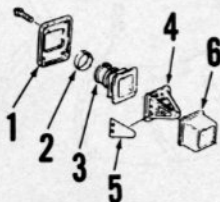

Fig. HL345—Exploded view of reed valve assembly.
REED VALVE. Model 410 is equipped with a pyramid type reed valve as shown in Fig. HL345. Reeds are retained on pins projecting from the reed seat by a moulded retainer (6). Inspect reed seat, retainer and reeds for any distortion, excessive wear or other damage.